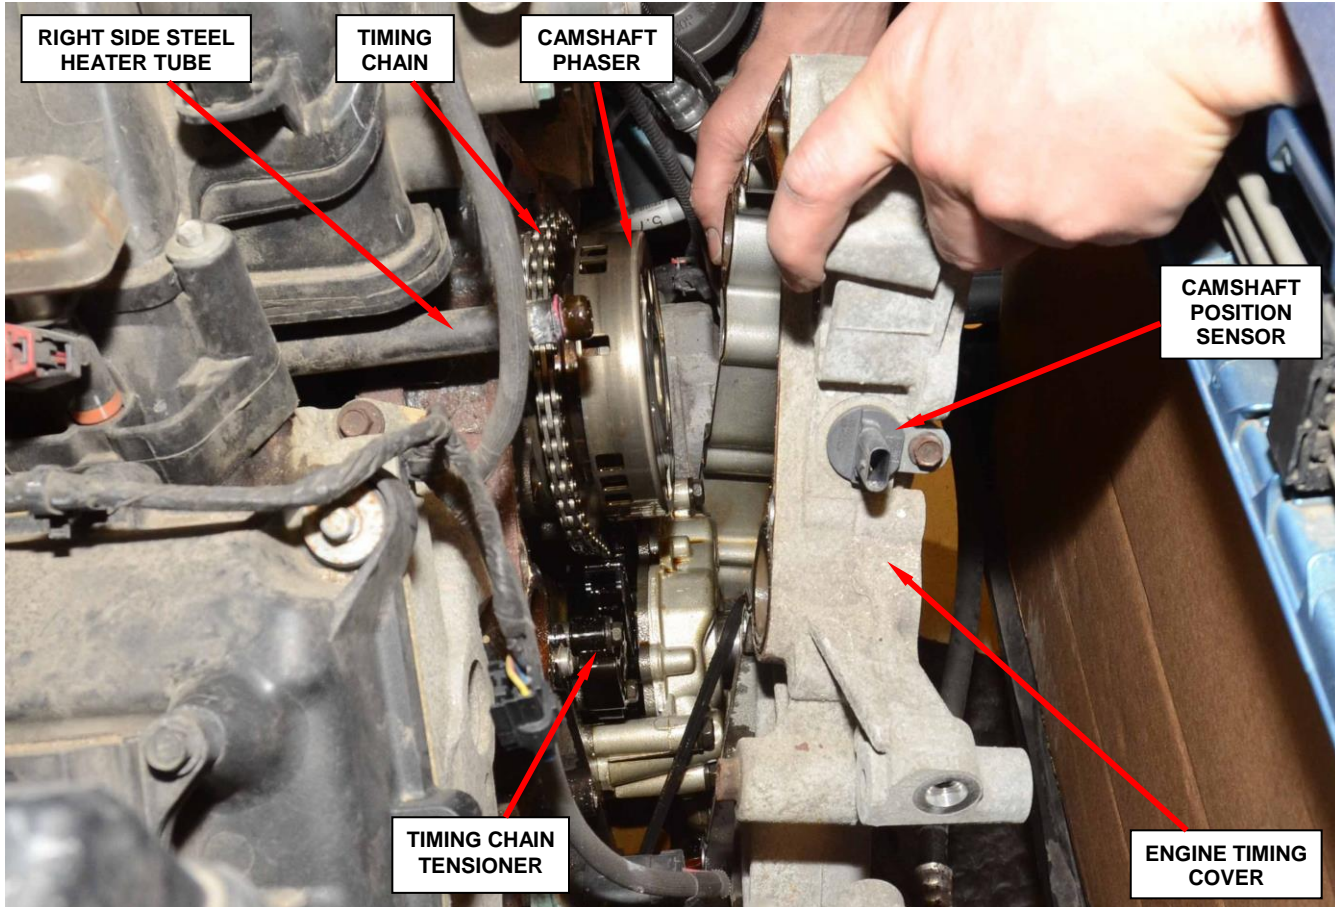

Figure 6 – Engine Timing Cover
34. Carefully remove the engine timing cover assembly from the engine (Figure 6).